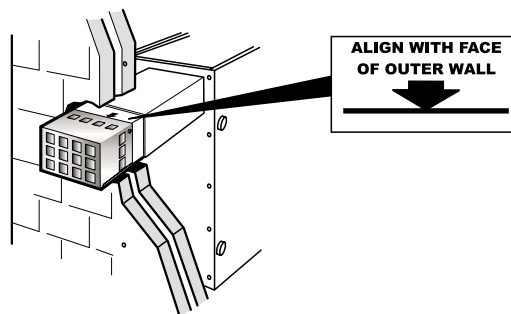

Fig. 24
- Important:** The stainless steel flue terminal must be located correctly to allow access to the terminal fixing screws. Ensure that the marker on the outer wall sleeve is aligned with the face of the outer wall. See Fig. 24.